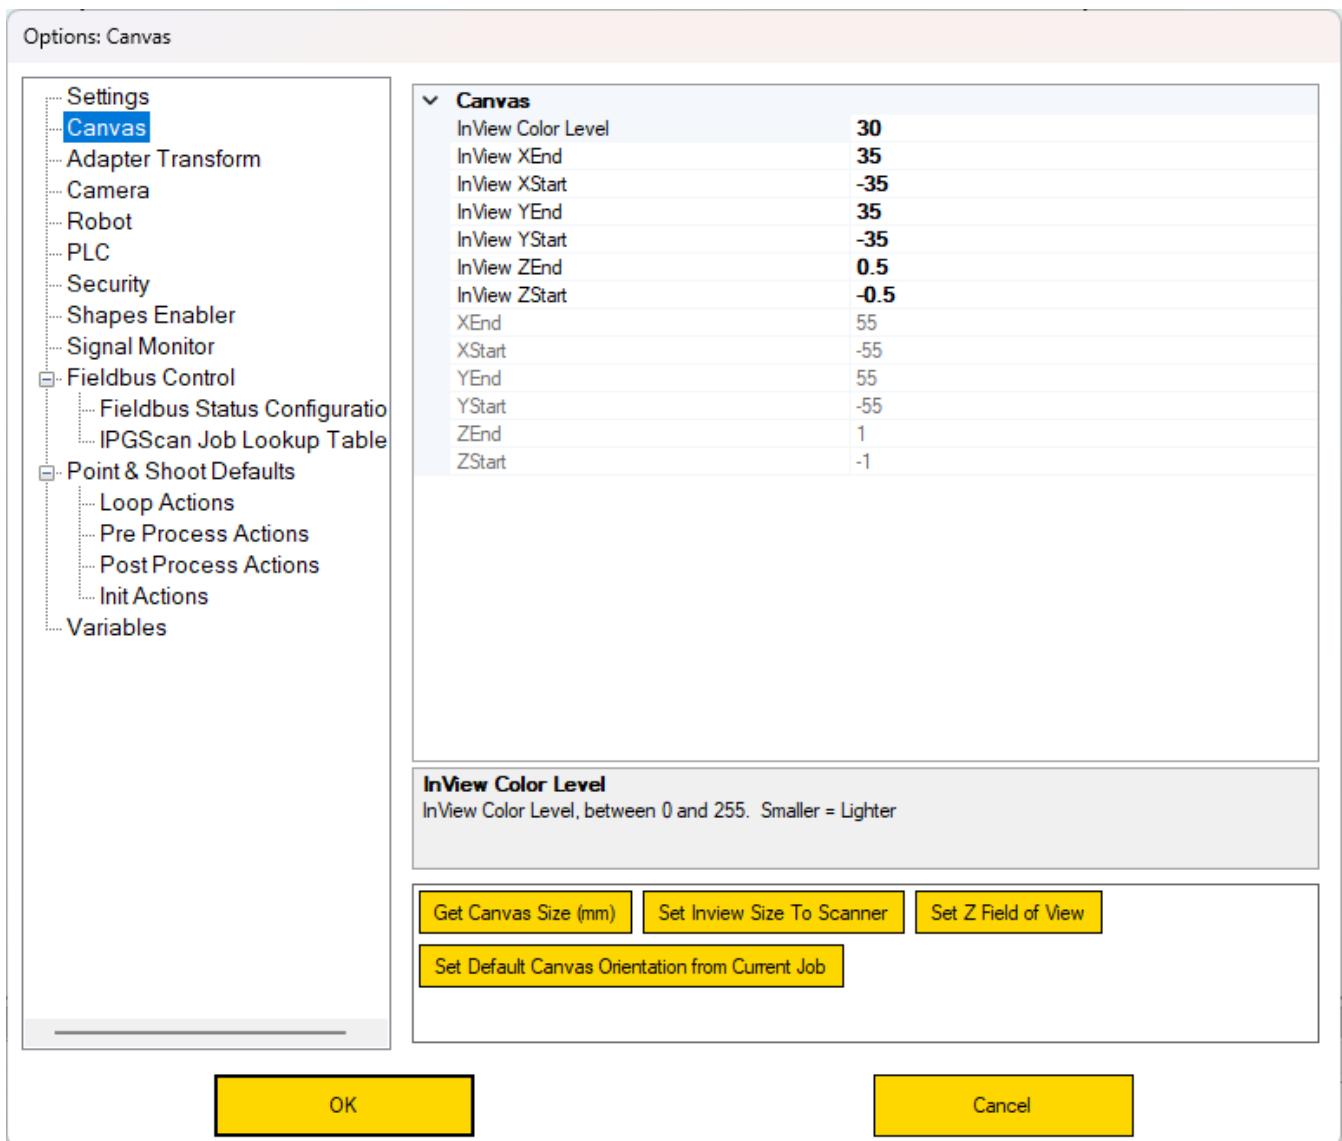

Figure 28: IPGScan Option Window - Canvas Parameters
- a. Here users are presented with the scanners current Canvas (FOV) size as well as InView (Robotic OTF and Gantry Application Specific parameters) size. See Figure 28 on page 54.